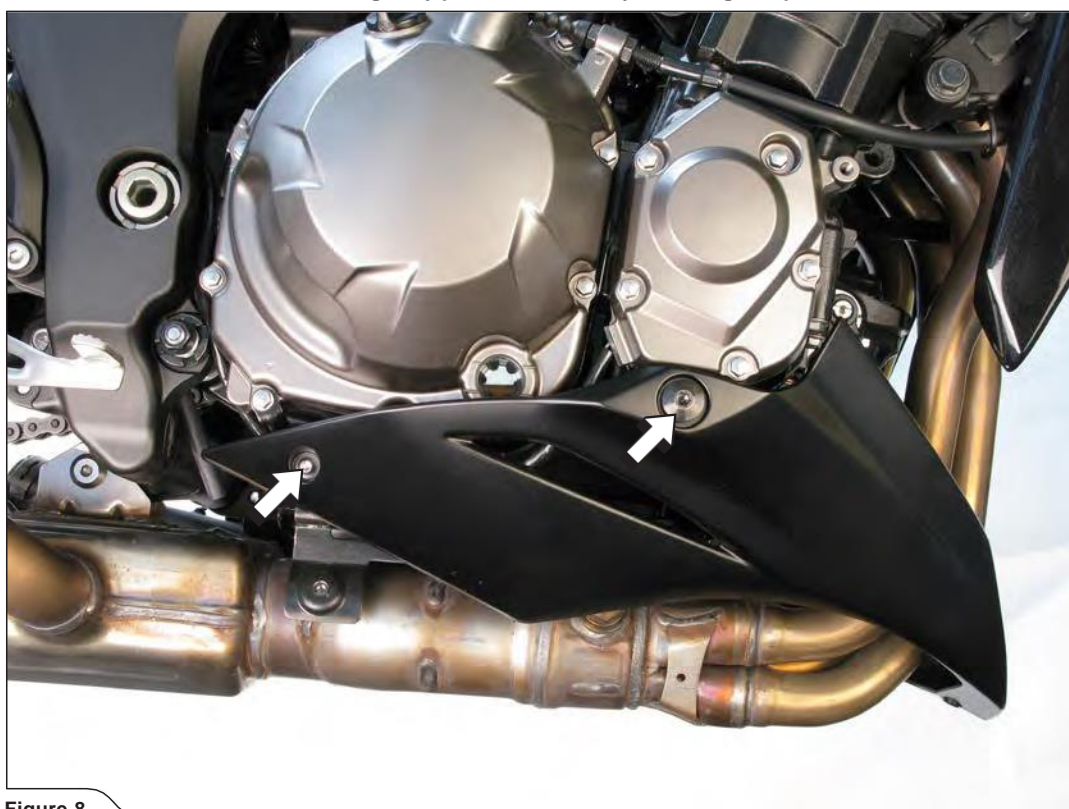

Figure 8
7. **For Z1000 model only:** unscrew the marked bolts on both sides of the motorcycle and carefully remove the lower cowlings off the motorcycle (**Figure 8**).